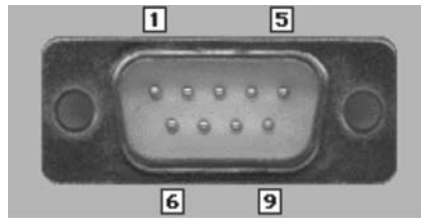

Figure 10.15 Serial hardware connections.
There are several recommended standards (RS) for serial communication. Each varies in hardware and software specifications. One must be familiar with their instrument and what connector is used before you can begin controlling that device with their computer. Figure 10.15 shows serial hardware connection.